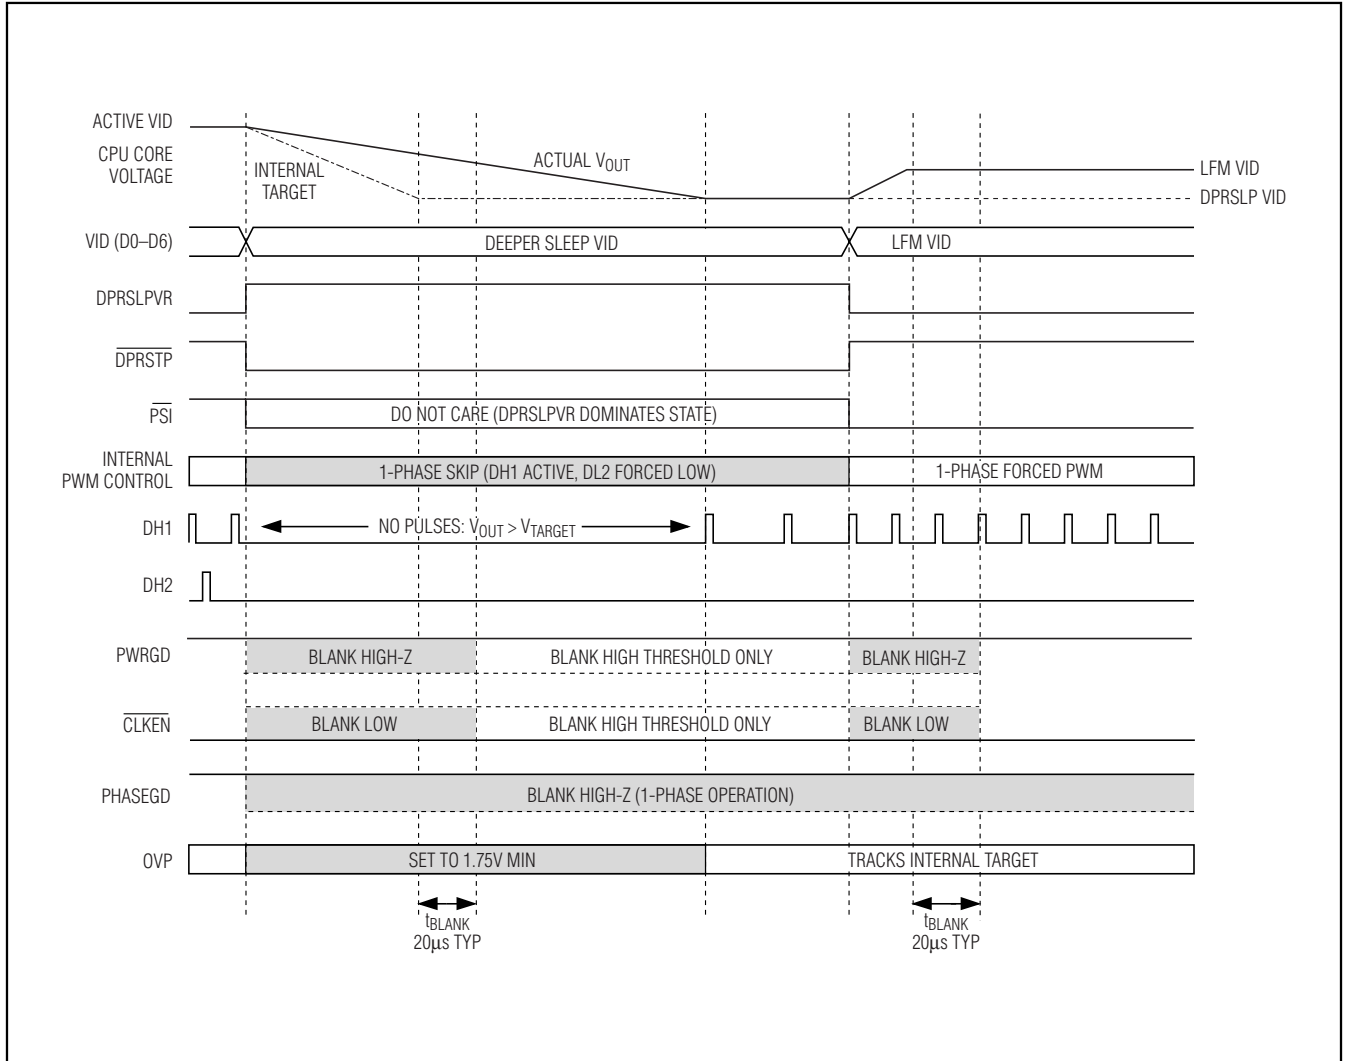

Figure 6. Slow C4 Transition
- Slow C4 Deeper Sleep Exit:** When exiting deeper sleep (DPRSLPVR high,  $\overline{DPRSTP}$  pulled high) while the output voltage is regulating to the deeper sleep voltage, the MAX8770/MAX8771/MAX8772 remain in 1-phase skip mode and ramp the output voltage to the LFM DAC code provided by the processor at  $1/4$  the slew-rate set by  $R_{TIME}$ . The controller blanks PWRGD, PHASEGD, and  $\overline{CLKEN}$  (forced high impedance) until  $20\mu s$  after the transition is completed. See Figure 6.